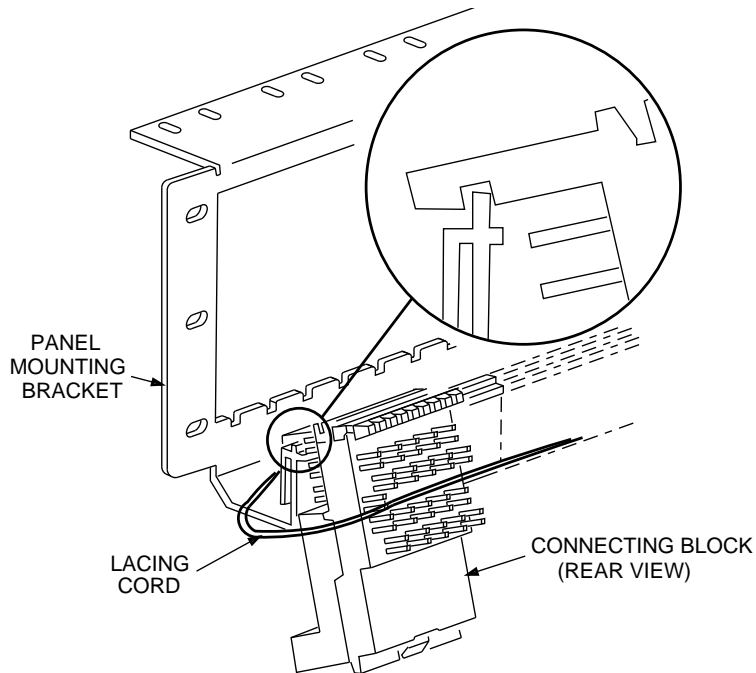

Figure 5. Temporarily Secure Connecting Block to Shelf
1. Temporarily suspend the connecting block on the panel mounting bracket with cabling side facing out and ready for wire-wrap termination (see Figure 5). When hung in this position, the circuit identification on the rear of the block is "upside-up" to aid in wiring operations.
2. Temporarily secure blocks to bracket with lacing cord during cabling operation (not shown in Figure 5).